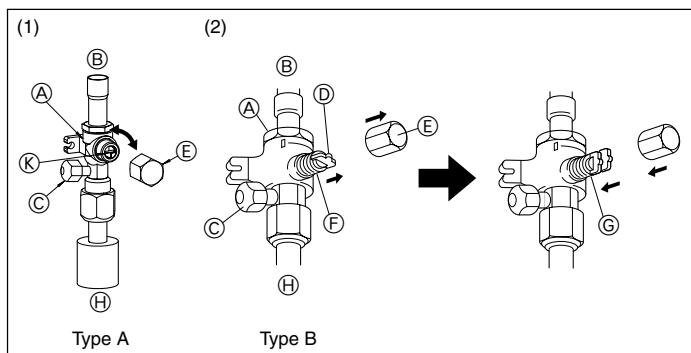
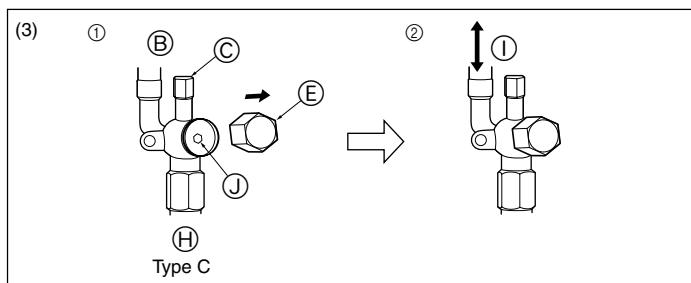

Fig. 4-6
Fig. 4-7
(1) Type A (Fig. 4-6)
- ① Remove the cap, then turn one-quarter rotation counter-clockwise with a flat-bladed screwdriver to complete open.
- ② Check that the valves are fully open, then return the cap to its original state and tighten it down.
(2) Type B (Fig. 4-6)
- ① Remove the cap, pull the handle toward you and rotate 1/4 turn in a counterclockwise direction to open.
- ② Make sure that the stop valve is open completely, push in the handle and rotate the cap back to its original position.
(3) Type C (Fig. 4-7)
- ① Remove the cap and turn the valve rod counter-clockwise as far as it will go with the use of a 4 mm hexagonal wrench. Stop turning when it hits the stopper.
- ② Make sure that the stop valve is open completely and rotate the cap back to its original position.
③	① Valve	⑥ Completely open
④	② Unit side	⑦ (On-side installation) Refrigerant piping side
⑤	③ Service port	⑧ Direction the refrigerant flows in
⑥	④ Handle	⑨ Wrench hole
⑦	⑤ Cap	⑩ Operation section
⑧	⑪ Completely closed